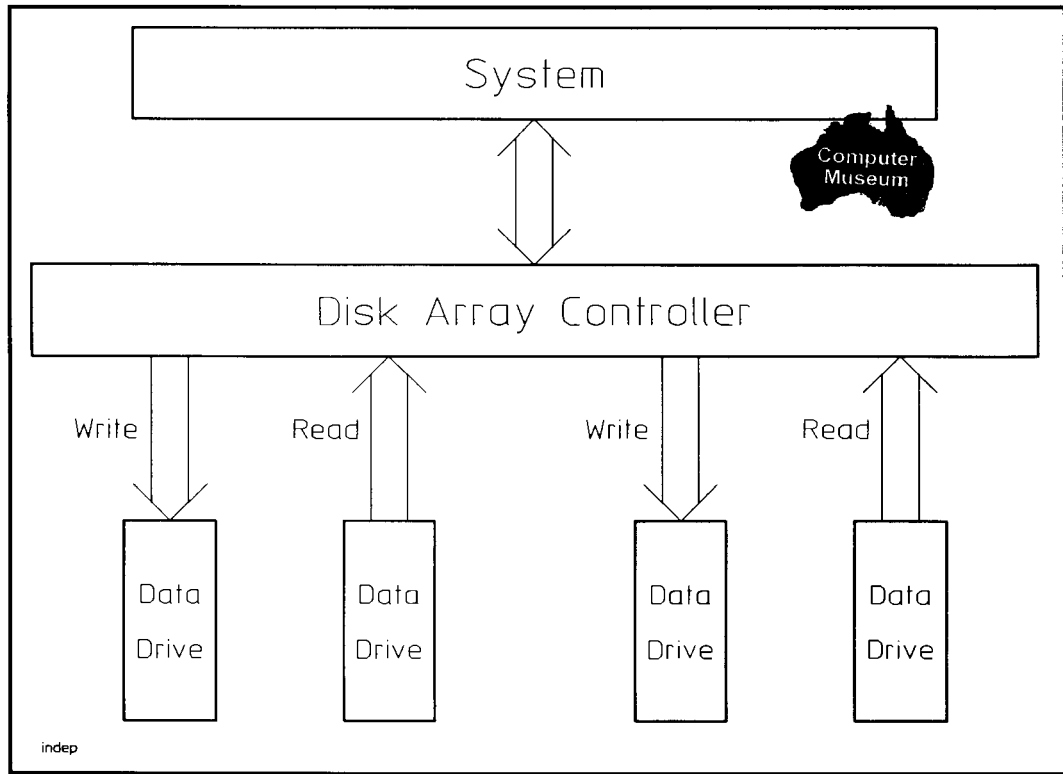

Figure 1-5. Independent Mode
When a disk array operates in Independent Mode each disk drive functions as a single logical device (LDEV) or logical unit (LU) on the system. In Independent Mode, one disk drive can service one I/O request while the other disk drives service other I/O requests (see Figure 1-5). Thus, multiple I/O transactions can be performed concurrently on the same system bus. Independent Mode is best suited for applications that require high I/O concurrency such as data base applications.